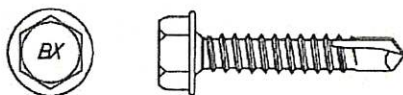

FIGURE 1—HEX WASHER HEAD (HWH)
ITW Buildex TEKS® Self-drilling Fasteners are self-drilling tapping screws complying with the material, process, and performance requirements of ASTM C1513. The screws have either a hex washer head (HWH), an HWH with serrations, or a Phillips® (Type II) pan head. The screws are fully threaded, except where noted in Table 1, and the screws' threads comply with ASME B18.6.4, and the screws' drill points and flutes are proprietary and are designated as TEKS/1, TEKS/2, TEKS/3, TEKS/4, TEKS/4.5, and TEKS/5. The screws have nominal sizes of No.10 (0.190 inch), No.12 (0.216 inch), and 1/4 inch (0.250 inch), and lengths from 1/2 inch to 8 inches (12.70 mm to 203.20 mm). See Figures 1 through 3 for depictions of the screws. Table 1 provides screw descriptions (size, tpi, length), nominal diameters, head style, head diameters, point styles, drilling capacity ranges, length of load-bearing area and coatings.
- 7.1 ITW Buildex TEKS® Self-drilling Fastener heads are marked with "BX" as shown in Figures 1 through 3. Each box of fasteners has a label bearing the company name (ITW Buildex), fastener description (model, point type, diameter and length), lot number, and the evaluation report number (ESR-1976).